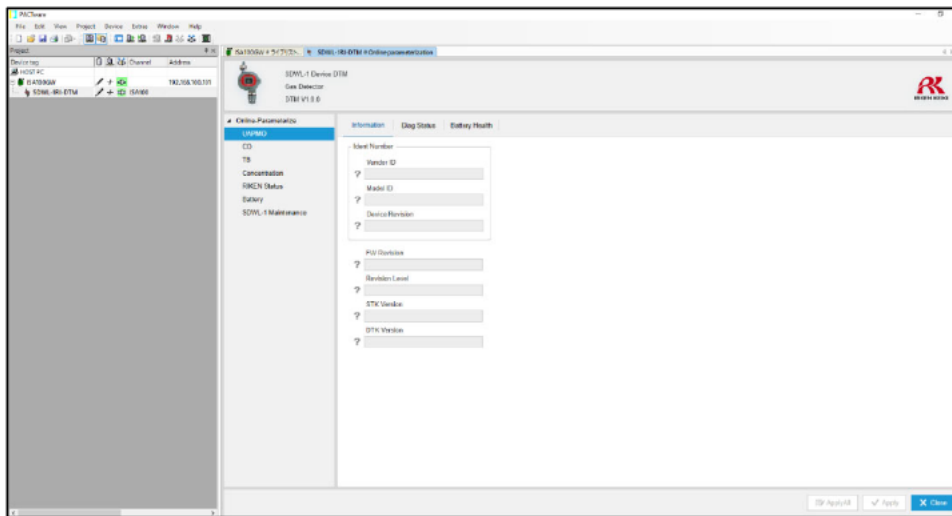

Figure 5-35 Online window
- ⑭ Once the DTM is launched, the window shown in Figure 5-35 below is displayed, and parameter loading starts automatically. Parameters can then be checked and configured.